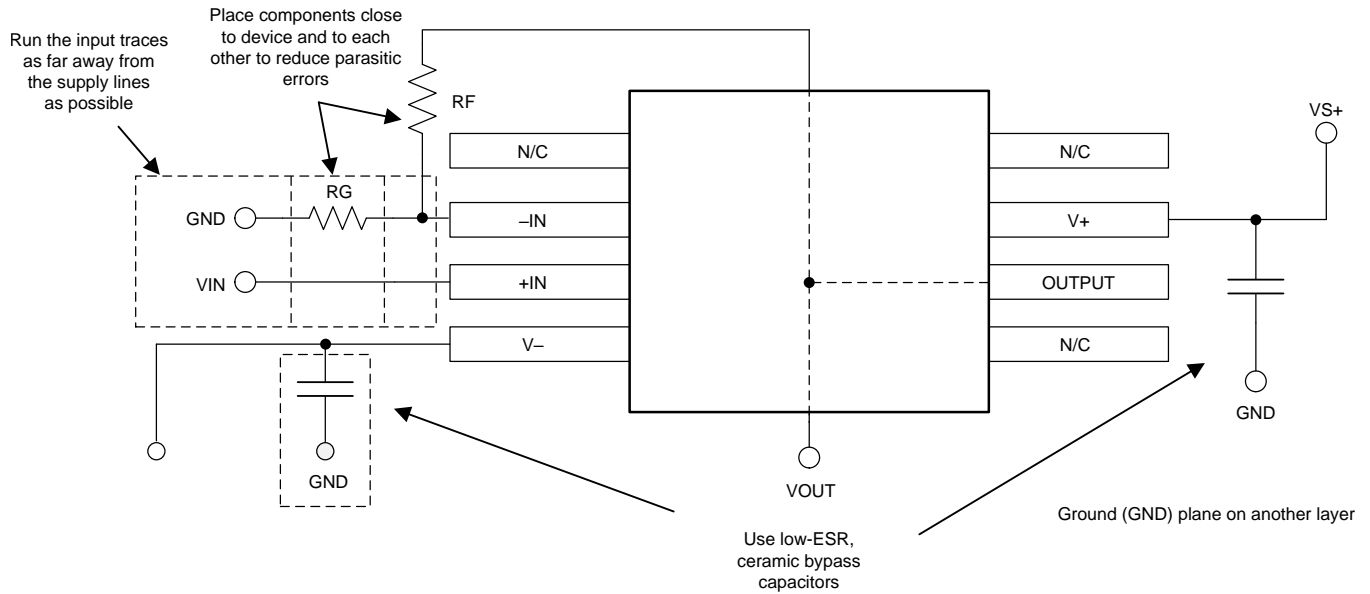

Figure 52. Operational Amplifier Board Layout for Non-inverting Configuration
- Place the external components as close to the device as possible. As shown in Figure 52, keeping RF and RG close to the inverting input minimizes parasitic capacitance.